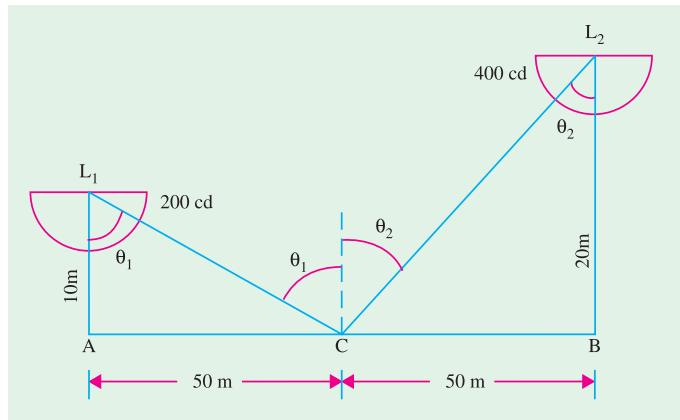

Fig. 49.11
**Solution.** When the illumination photometer is placed at the centre point, it will read the value of combined illumination produced by the two lamps (Fig. 49.11).